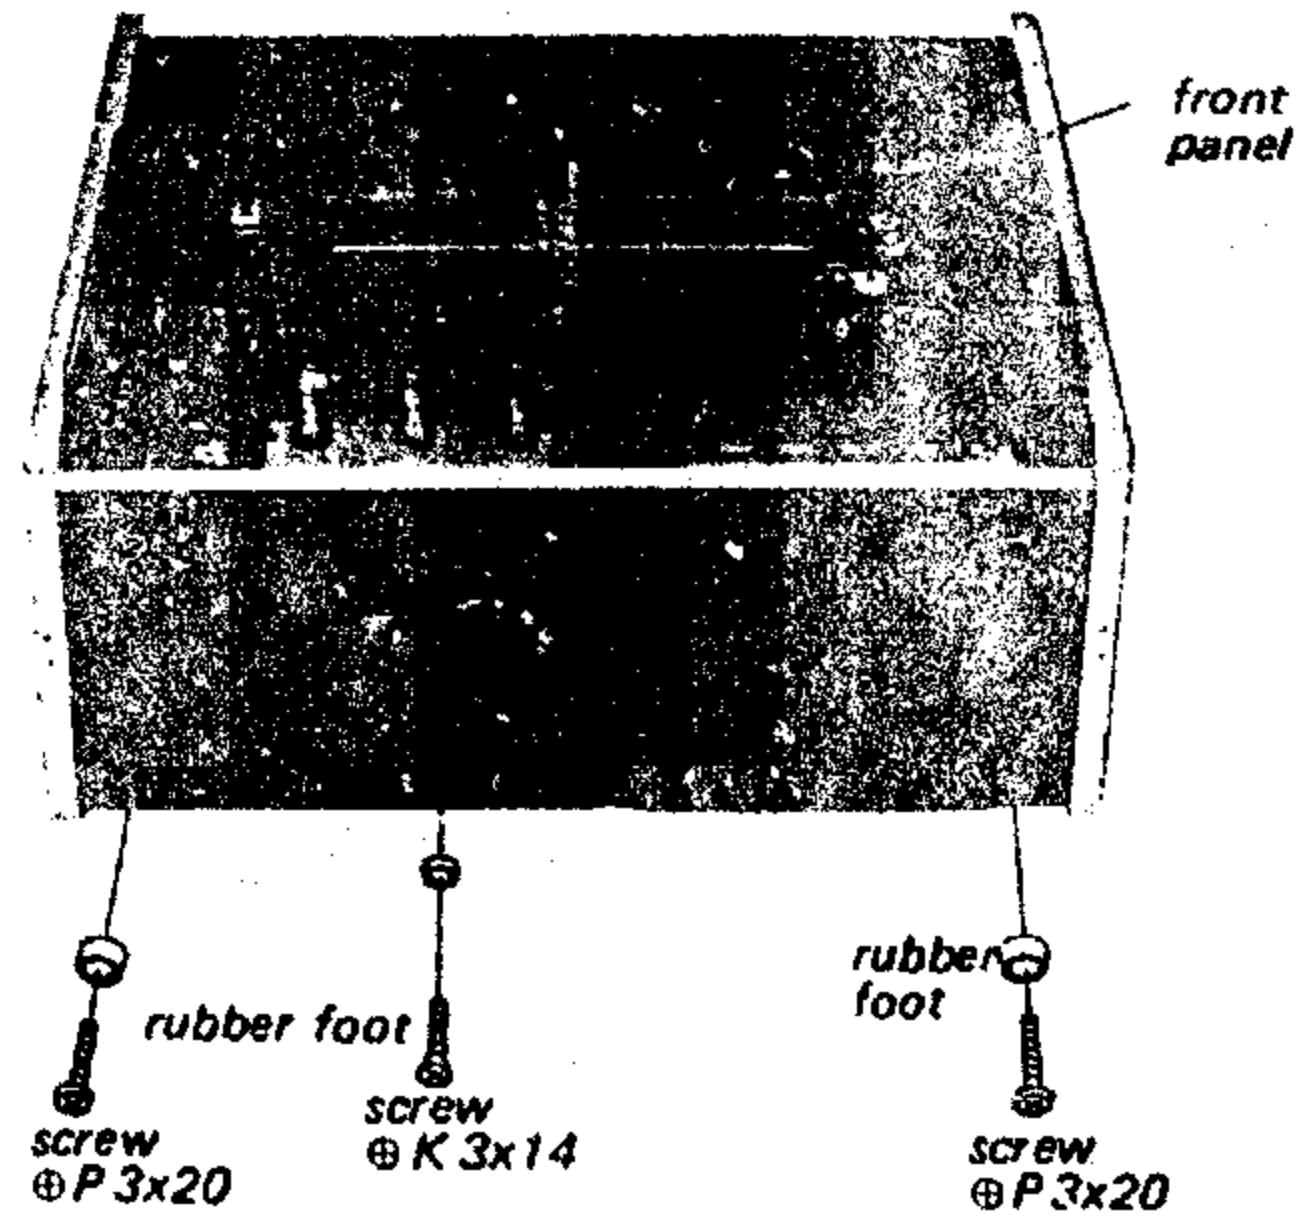

*Fig. 2-2*
- Remove the three screws shown in Fig. 2-2.